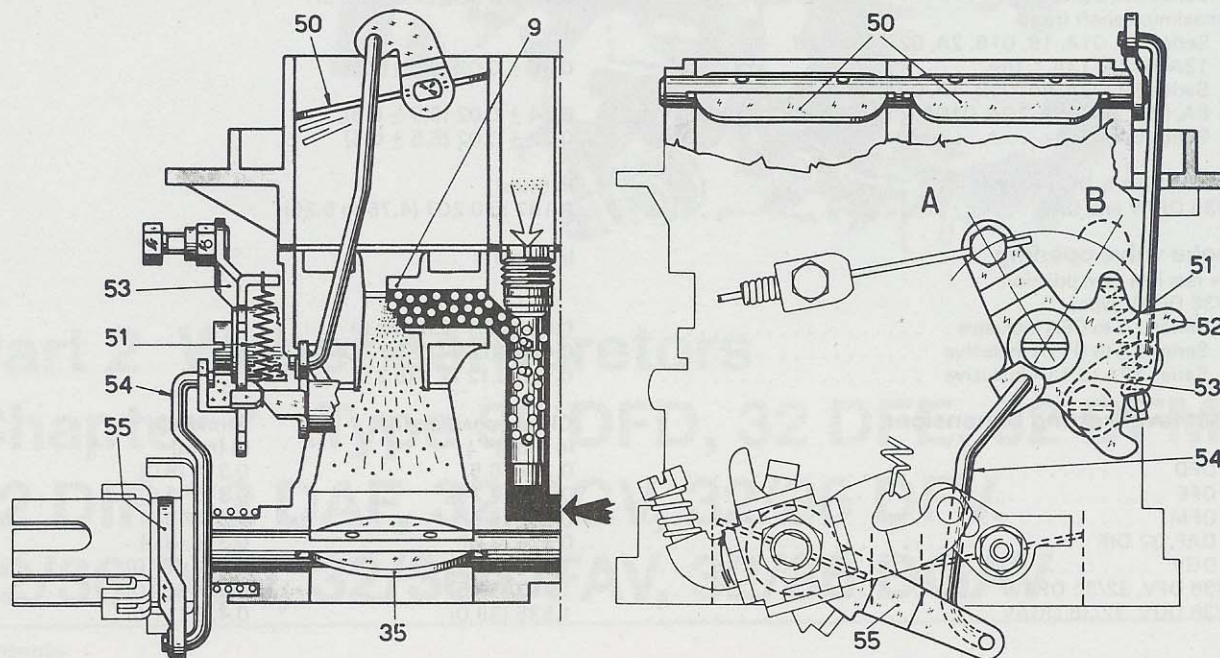

Fig. 7.2 Manual choke operation (Sec 3)
Refer to Fig. 7.2 and note that when the lever (53) is moved to position A, the choke valves (50) close the air intake. At the same time the fast idle lever (55) partially opens the primary throttle valve (35).